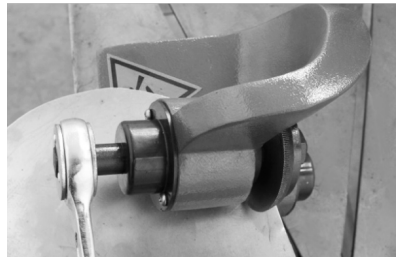

Figure 4
**NOTE:** *The Rotary Metal Shear creates its trim, the unwanted cut piece, on the right. When cutting a curve make sure the unwanted portion is to the right of the upper die (Figure 4).*